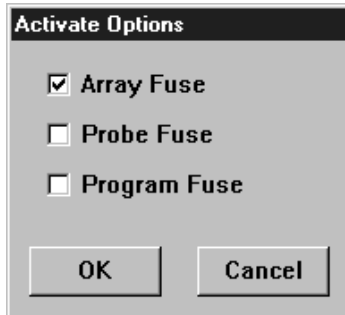
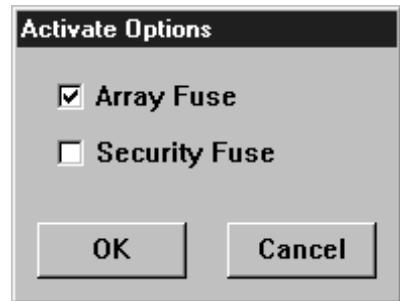

Figure 4-2. Activate Options for
Figure 4-3. Activate Options for all
- 4. Program your device.** You can program Array fuses only, the Security fuse(s) only, or both Array fuses and the Security fuse(s). For ACT 1 and 40MX devices, the dialog box shown in Figure 4-2 is displayed. For all other devices, the dialog box shown in Figure 4-3 is displayed. Choose the desired fuse programming options and click OK. Refer to “Programming Security Fuses” on page 34 for a discussion about programming security fuses.